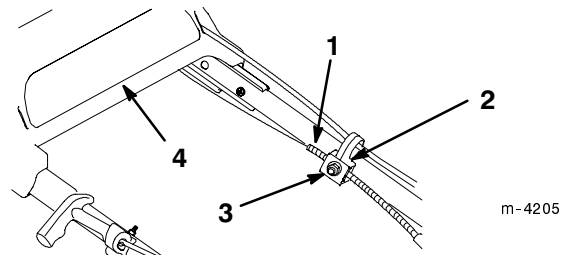

Figure 26
- Loosen the cable support nut (Fig. 26).
- With the upper handle pushed back as far as possible and while holding the drive bracket down, pull the cable jacket down (toward the lawn mower) until there is no slack in the cable (Fig. 26).
- Tighten the nut on the cable support (Fig. 26).